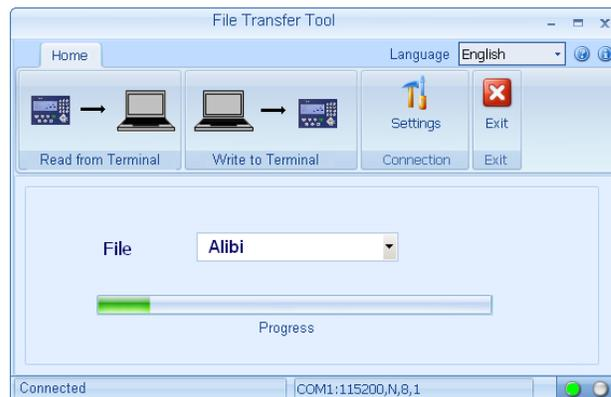

Figure 3-4: File transfer process bar
- Once the transfer process begins, the **Home** tab of the IND246 File Transfer Tool will display a progress bar (Figure 3-4).